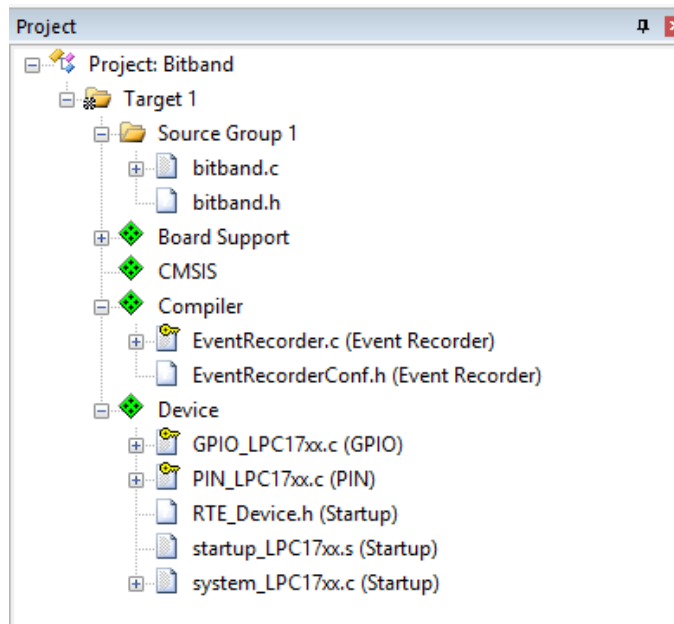

Figure 6
8. Now your Project Folder should look like as given in Figure 6 below.